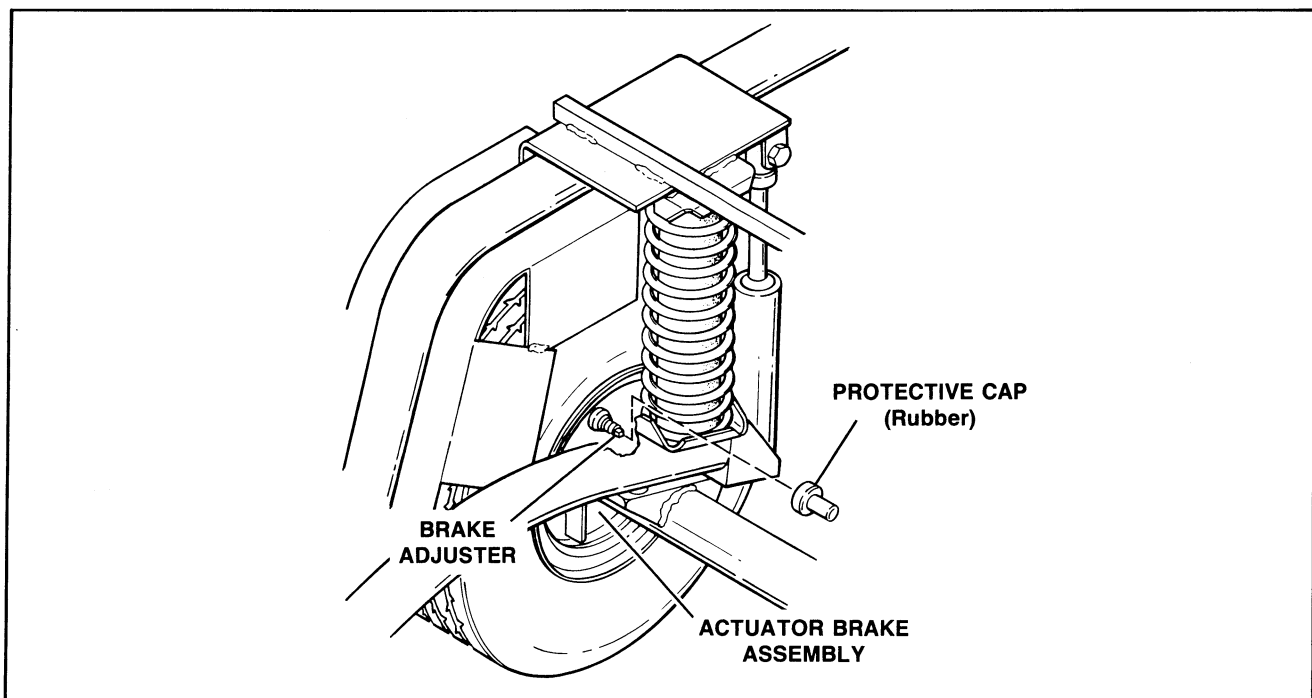

Figure 40 – Brake Cable Removal and Adjustment
Brake Cable Removal (Figure 40)
- b. Remove rubber protective caps, Figure 40, from brake adjusters on brake backing plates.